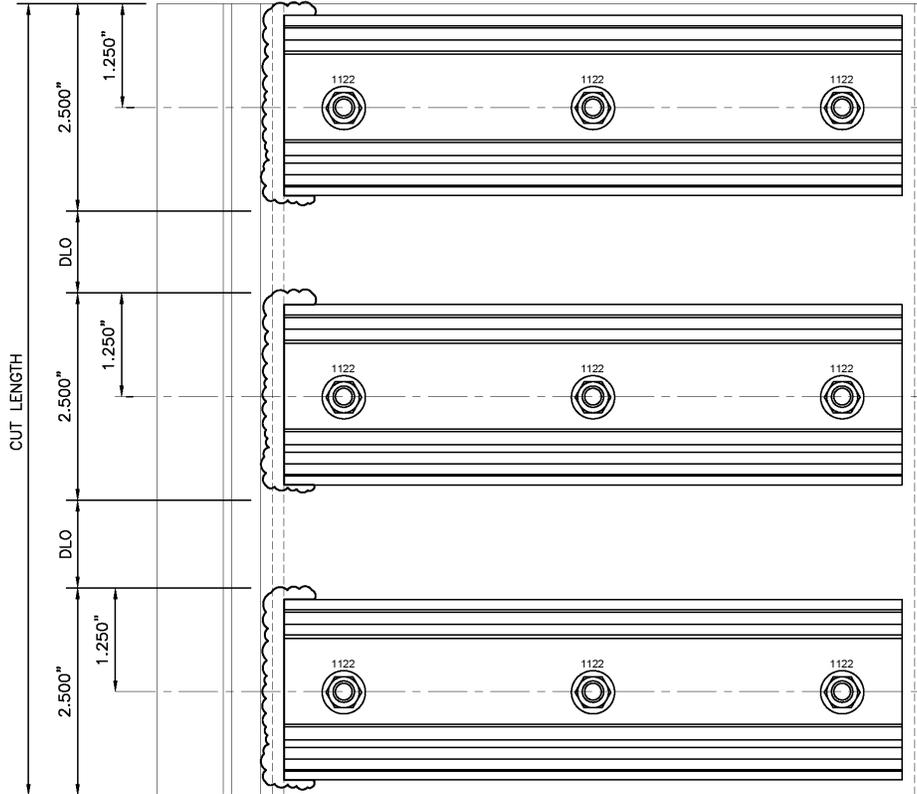

FIGURE F.1
- Butter the ends of the horizontals immediately before setting them. (FIGURE F.1)